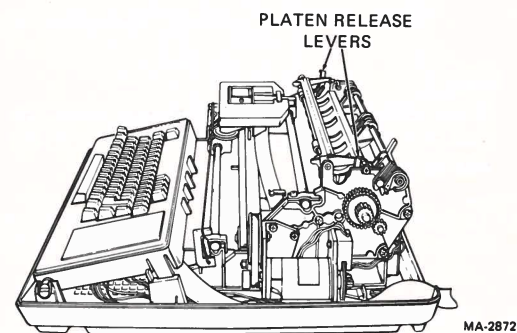

Figure 2-3 Platen Removal
6. Lift the bail bar to gain access to the platen. Remove the platen by simultaneously depressing the two platen release levers. Lift the platen straight up (Figure 2-3).